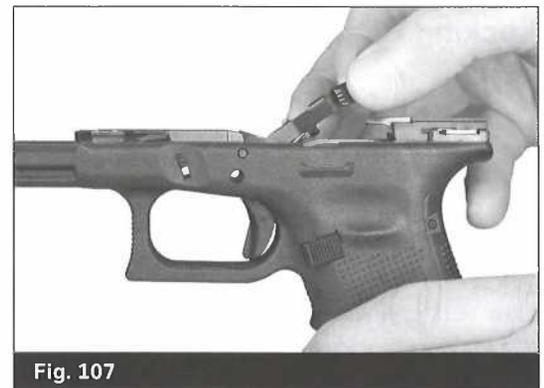

Fig. 107
- Insert the slide stop lever with the spring up and towards the front. Hold this lever horizontally and slide it into the recess just left of the trigger bar. The locking block pin must be in position before the slide stop lever is installed. If not, you will not have proper tension on the lever and this may lead to the slide locking back prematurely when firing. (Fig. 107)